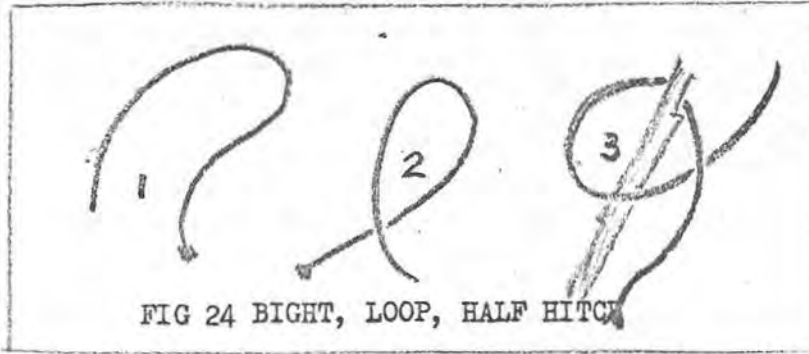

FIG 24 BIGHT, LOOP, HALF HITCH
(1) Bight: (Figure 24(1)) - A simple bend of rope in which the rope does not cross itself.
(2) Loop: (Figure 24 (2)) - A bend of rope that crosses itself.
(3) Half-Hitch: (Figure 24 (3)) - A loop that runs around an object in such a manner as to lock itself.
(4) The running end of the rope is the free end of the rope.
(5) The standing part of the rope is the static part.
(6) The lay of the rope is the same as the twist of the rope.